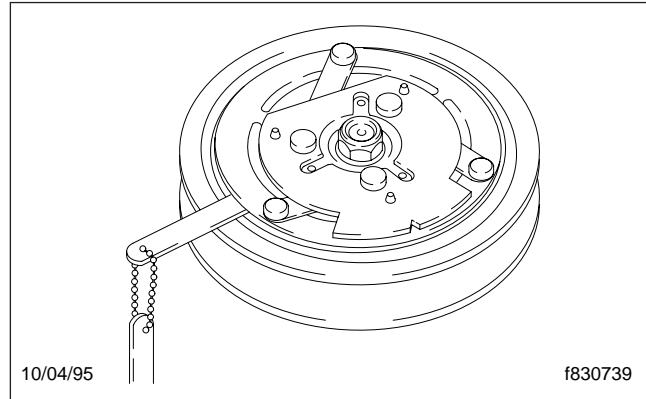

Fig. 10, Check the Clutch Clearance
4. Using a feeler gauge, check that the clutch clearance is 0.02 to 0.03 inch (0.4 to 0.8 mm). See Fig. 10. Adjust the clearance by gently tapping